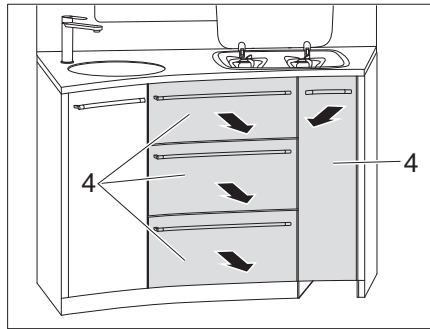

Fig. 120 Removing kitchen drawers
- Remove the kitchen drawers (Fig. 120,4).